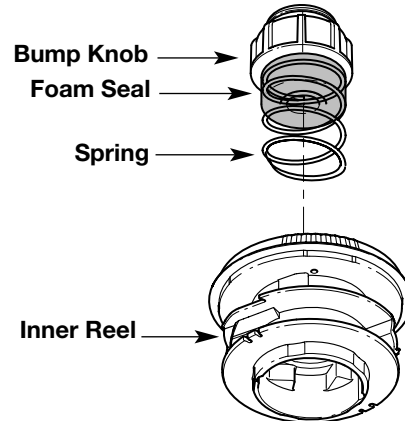

Fig. 23
1. Turn the Bump Knob counterclockwise and remove the bump knob, spring, and foam seal (Fig. 23).
2. Pull out the bump knob, spring, and foam seal (Fig. 23, Pg. 17).
3. Pull the inner reel with existing line from the outer spool (Fig. 23, Pg. 17).
7. Place the bump knob, spring, and foam seal into the inner reel (Fig. 23, Pg. 17).